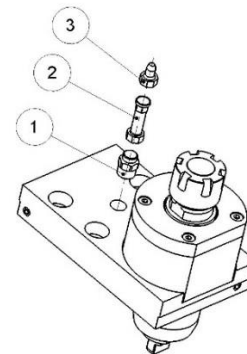

Figure 2
To use the external watering. Remove the plug and fix and the nozzle so that it points in the direction of the tool (fig 2, pos 3).